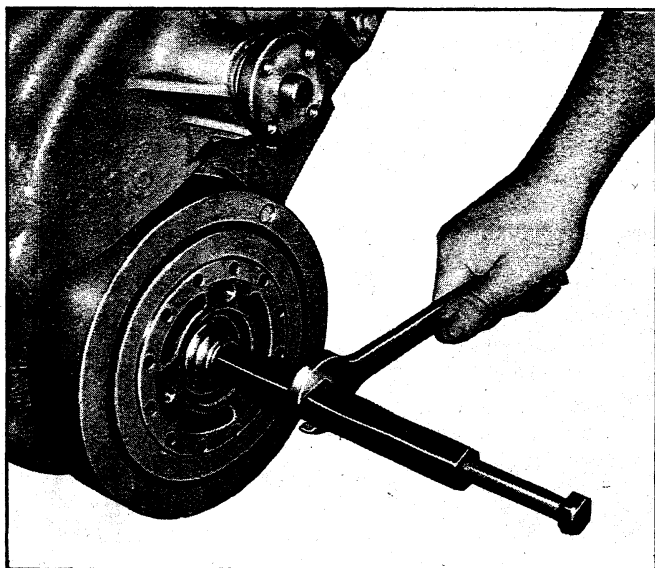

Fig. 14V - Installing Torsional Damper (396 and 427)
3. Using Tool J-21058 pull damper onto crankshaft (fig. 14V).